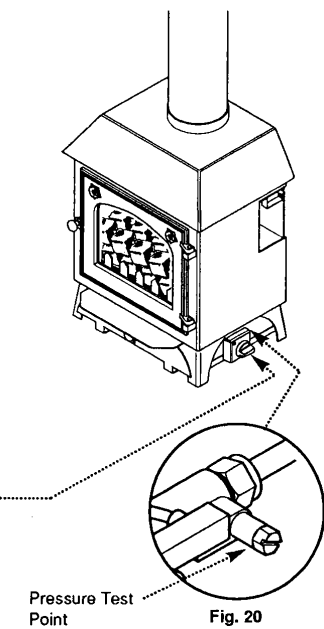

Fig. 20
1. Remove the screw from the pressure test point on the gas tap (adjacent to the control knob) and fit a pressure gauge (Fig. 20).